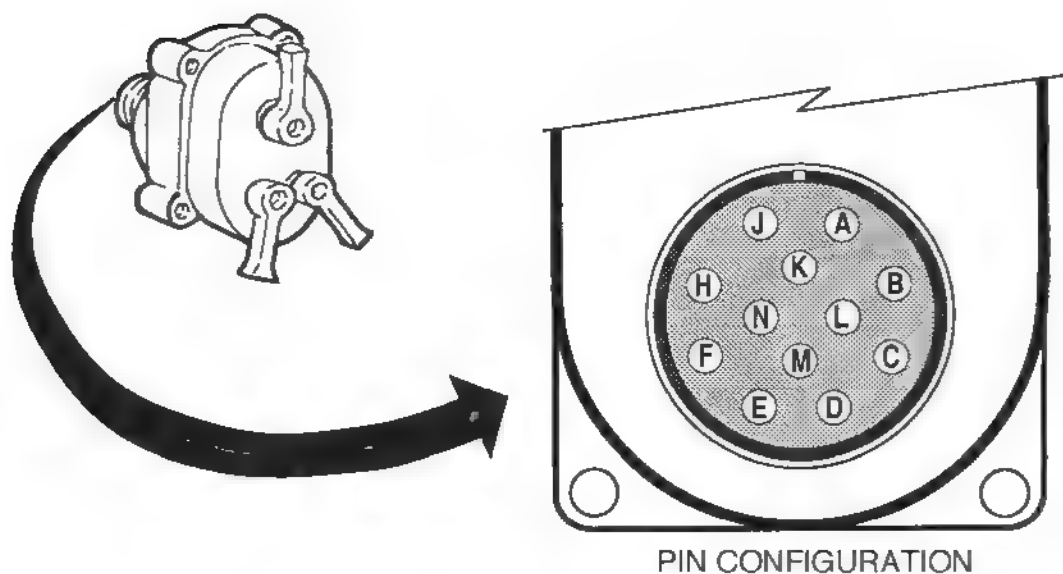

Figure 12-12. Master Lightswitch Pin Configuration.
I. HIGH BEAM SELECTOR SWITCH TESTING (Figure 12-12)